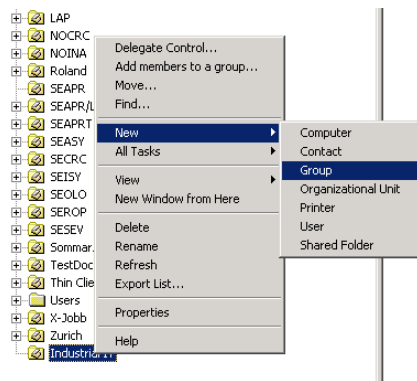

Figure 9. Creation of User Groups
2. Select the domain root object. Open the context menu and select **New > Group**, see Figure 9.